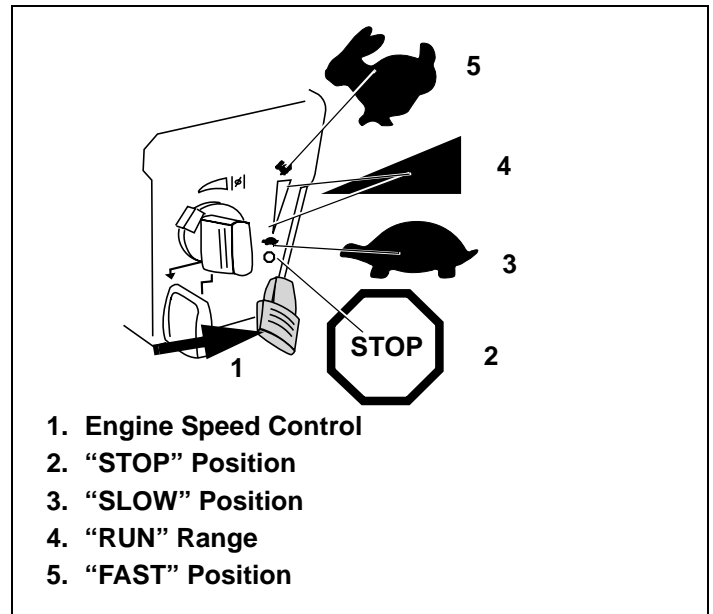

Figure 33. Engine Speed Control Positions
2. Move equipment control, if present (see manufacturer's instructions), engine control lever or ignition switch back and forth several times and leave control in "STOP" or "OFF" position. See Figure 33.